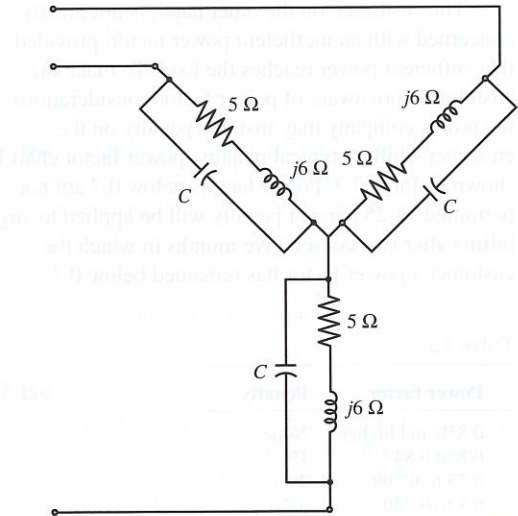

Figure P7.73
7.73 To correct the power factor problems of the motor in Problem 7.72, the company has decided to install capacitors as shown in Figure P7.73.